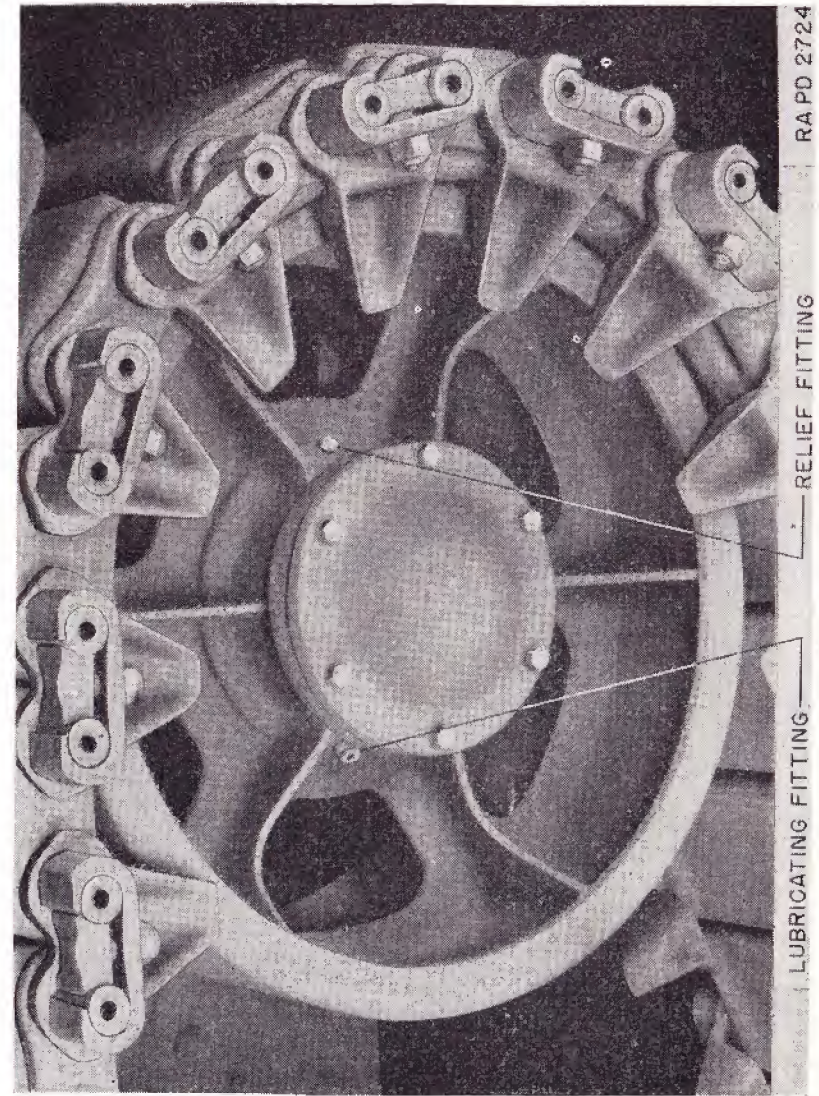

FIGURE 58.—Track idler.
(6) When the track is adjusted, slide the collar back onto the serrations of the spindle and lock it with the clip. Release the center bolt by turning it clockwise and tighten the two outside bolts.
98. Idlers.—*a. Description* (fig. 58).—Two large steel idler wheels are mounted on the end opposite the driving sprockets to support the tracks. They are provided with an eccentric adjustment for the purpose of adjusting the tension of the tracks.